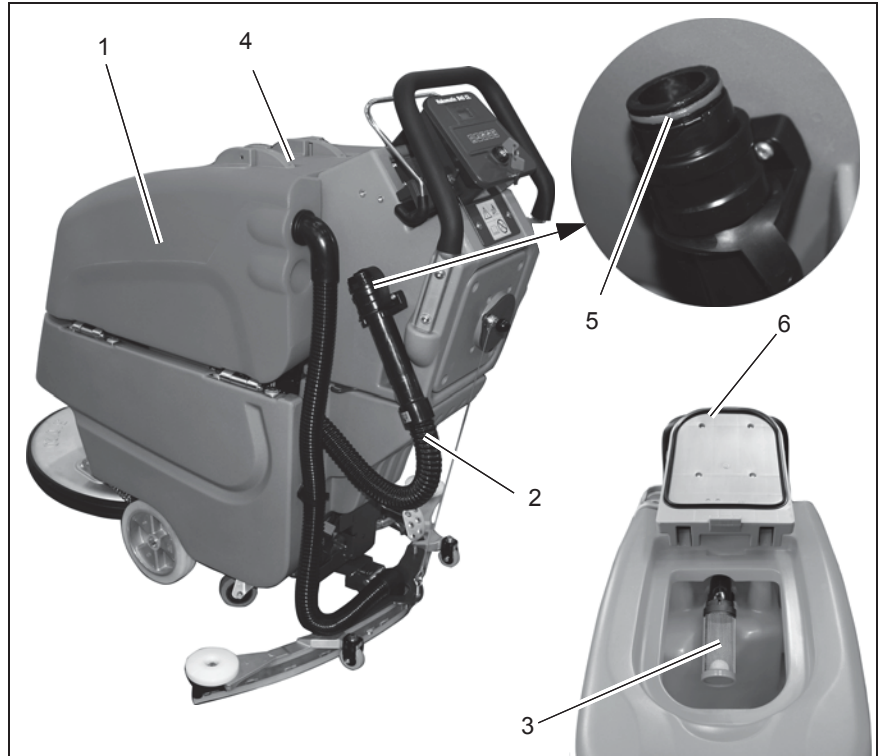

Fig.13
Clean soiled water tank (Fig. 13/1) at daily intervals, as required or upon acoustic signal (increased suction turbine speed).
4. Take drain hose (Fig. 13/2) from holder. Bend the drain hose in the front area.
Clean soiled water tank (Fig. 13/1) at daily intervals or as required.
2. Open tank lid (Fig. 13/4) of the soiled water tank.
3. Take drain hose (Fig. 13/2) from holder and empty soiled water tank completely.
Check suction filter (Fig. 13/3) for function at daily intervals and clean if required. The suction filter is clipped and can be easily removed.
Check the functionality of the seal from the drain hose (Fig. 13/5) daily and change it after 125 operating hours at the latest.
Check the functionality of the seal in the tank cap (Fig. 13/6) daily and change it after 125 operating hours at the latest.